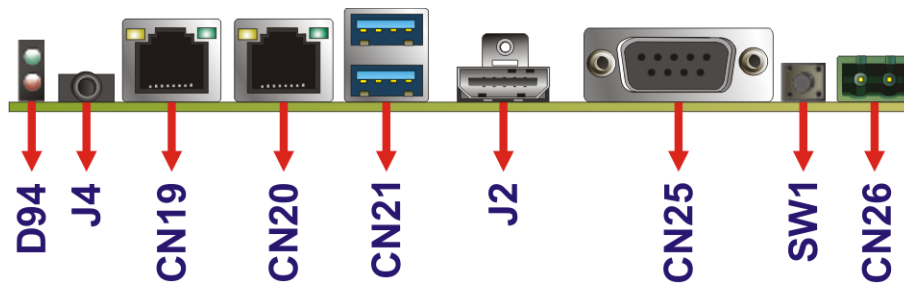

Figure 3-16: External Peripheral Interface Connector
Figure 3-16 shows the WAFER-IMX8MP external peripheral interface connector (EPIC) panel. The EPIC panel consists of the following:
- CN Location:** See **Figure 3-16**
CN Location: See **Figure 3-16**